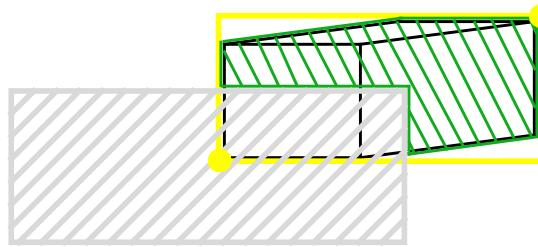

Figure 20.56: Minimum bounding rectangle
- Minimum bounding rectangle (bottom left and top right points - see Figure 20.56)